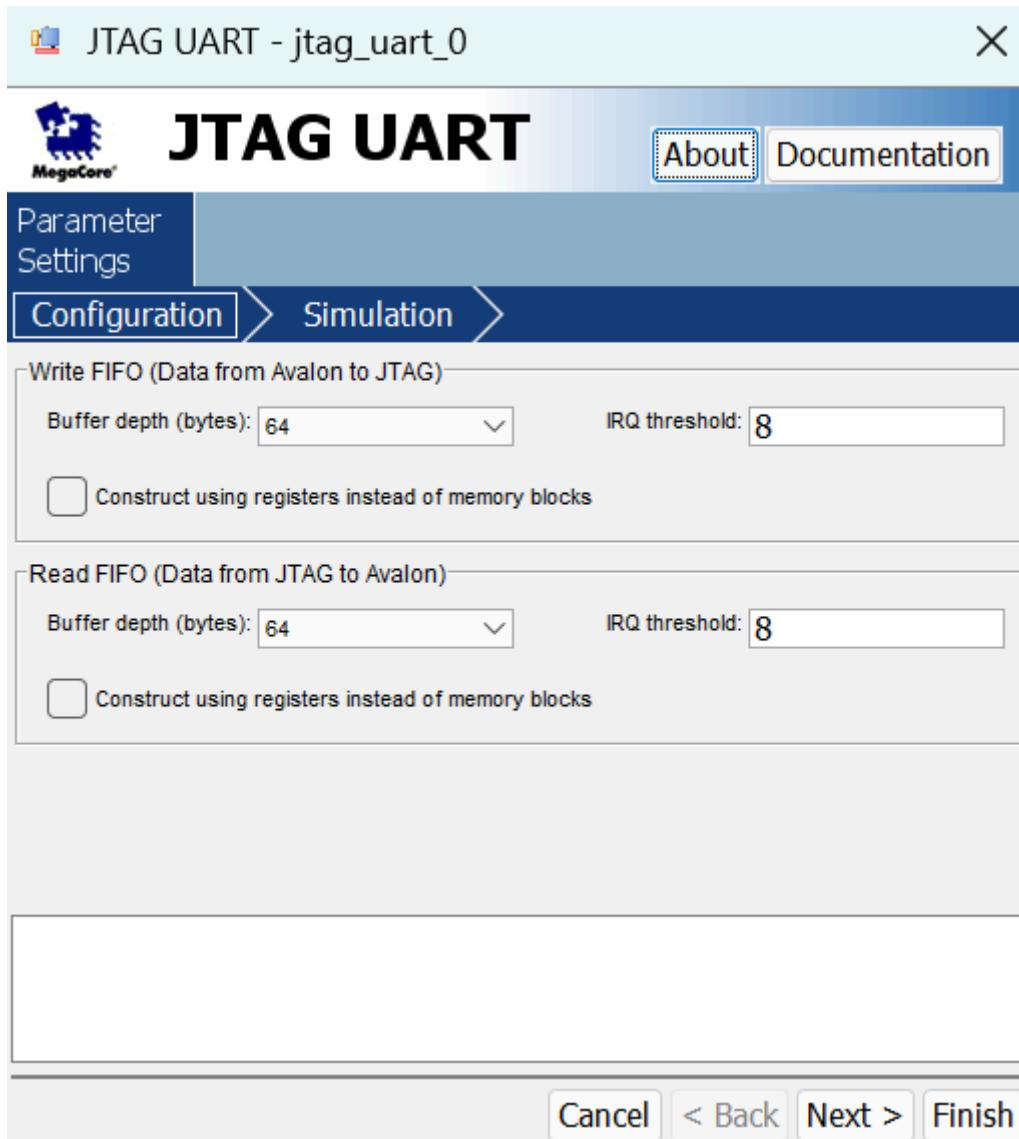

Figure 13. Define the JTAG UART interface.
- Select Interface Protocols > Serial > JTAG UART and click Add to reach the JTAG UART Configuration Wizard in Figure 13.